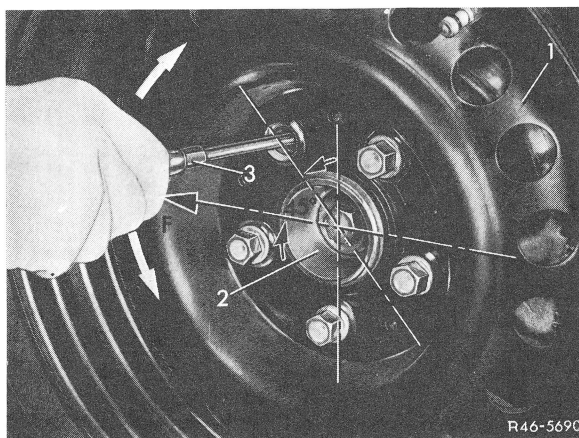
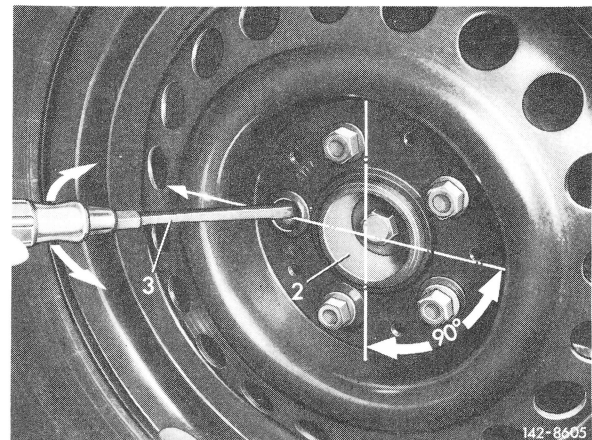

Fig. 1
Fig. 2
- 2 Jack up vehicle and turn one wheel first in such a manner that the bolt hole from which the spherical flange bolt has been screwed out extends approx. 45° in forward upward direction on vehicles with diagonal swing axle (Fig. 1), and accurately in forward direction on vehicles with diagonal swing axle with starting torque compensation (Fig. 2).
- 3 Insert screwdriver (size 4.5 mm) through hole of disc wheel of brake disc (12) and of rear axle shaft flange (15) into adjusting wheel of adjusting device (22) and turn adjusting wheel by pertinent movements in such a manner that the wheel can no longer be turned. Then turn adjusting wheel back by approx. 2 - 3 teeth, i.e., until the wheel can be rotated freely (Fig. 1 to 3).